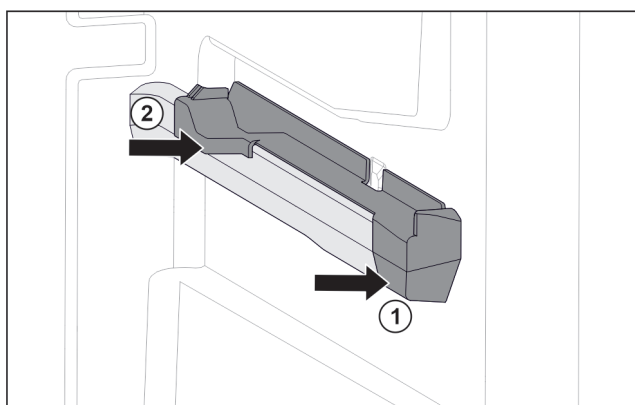

Fig. 115 Attachment on the right moulded rib
- Position attachment on moulded rib at the front. Fig. 115 (1)
- Press on attachment at the back. Fig. 115 (2)